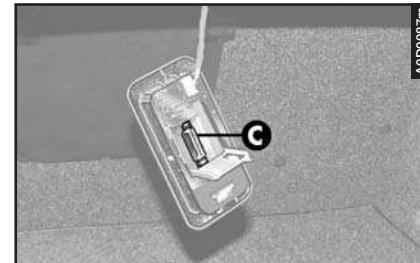

fig. 82
– Remove the snap-fitted bulb (**C- fig. 82**).